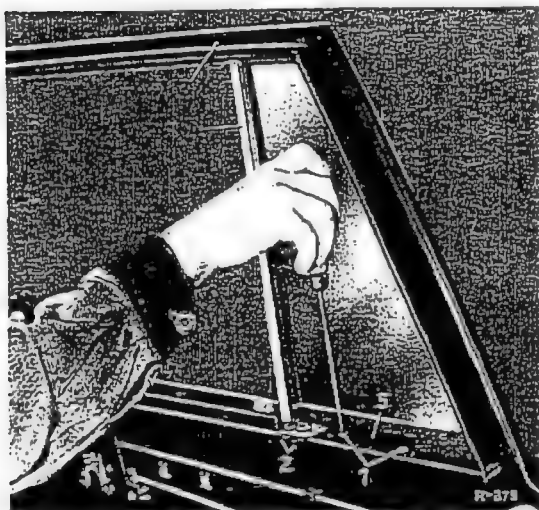

Fig. 73-13/1
5. Unscrew the two fixing screws (1) at the stop bracket (5) and remove the stop bracket (5) (Fig. 73-13 1).